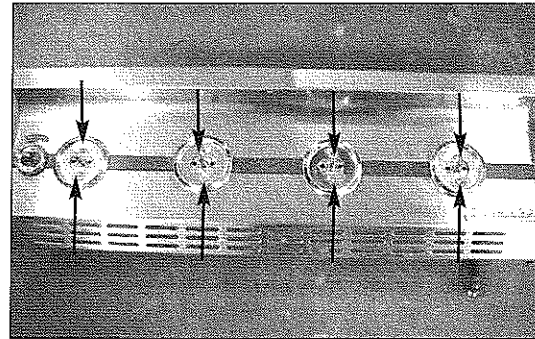

Fig 16
16. Take the front face down and use a phillips head screwdriver to remove the screws holding the main burner knob bezels to the front face and remove the bezels and the manifold. (See Fig. 16)
18. Reattach the bezels to the manifold with the screws removed in step 16. (See Fig. 16)